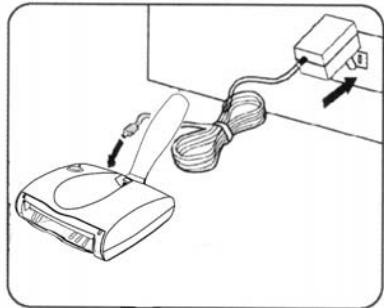

Fig. 6
1. Connect the charger plug to the charging jack or hole on the back of the hand sweeper. Plug the the charging adapter into the wall outlet. (120V,60Hz.) Use only the charger supplied by the manufacturer, rated output DC 6V, 100mA. (Fig. 6),